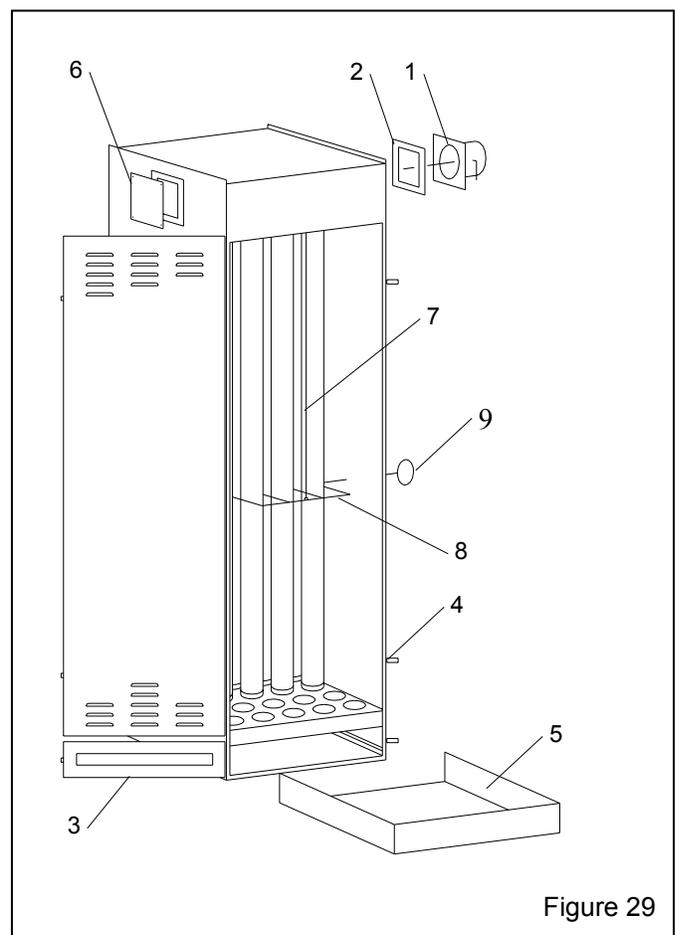

Figure 29
**9.10 Dry Filter Dust Collector, Figure 29**